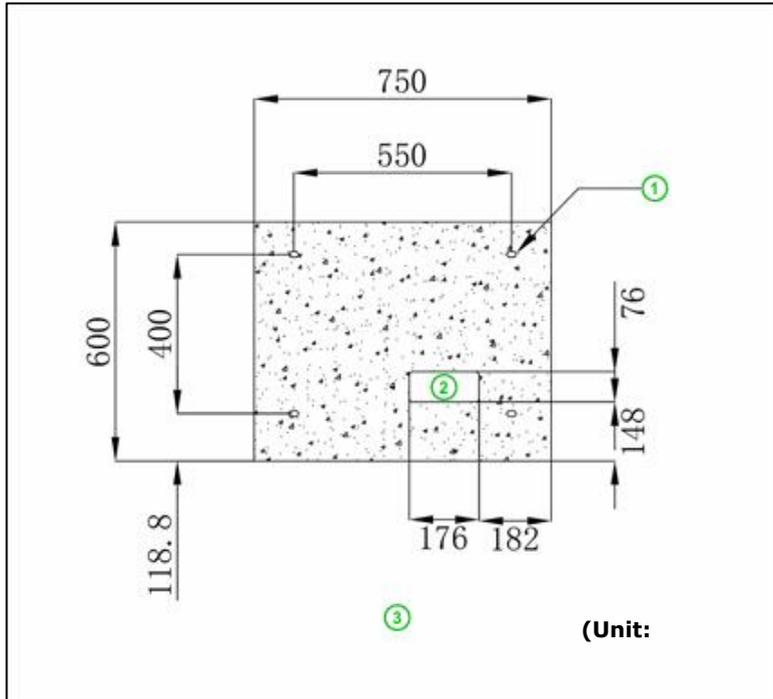
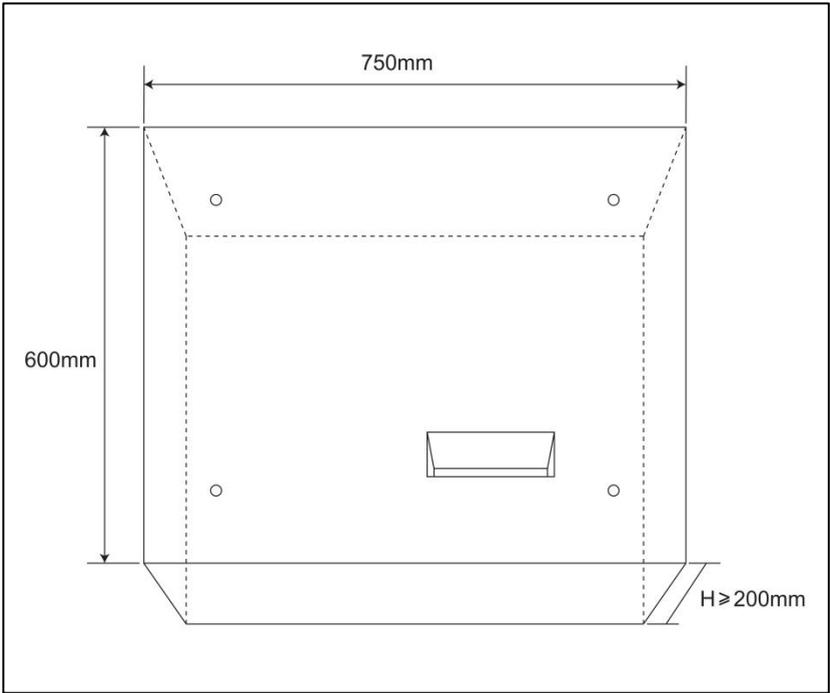
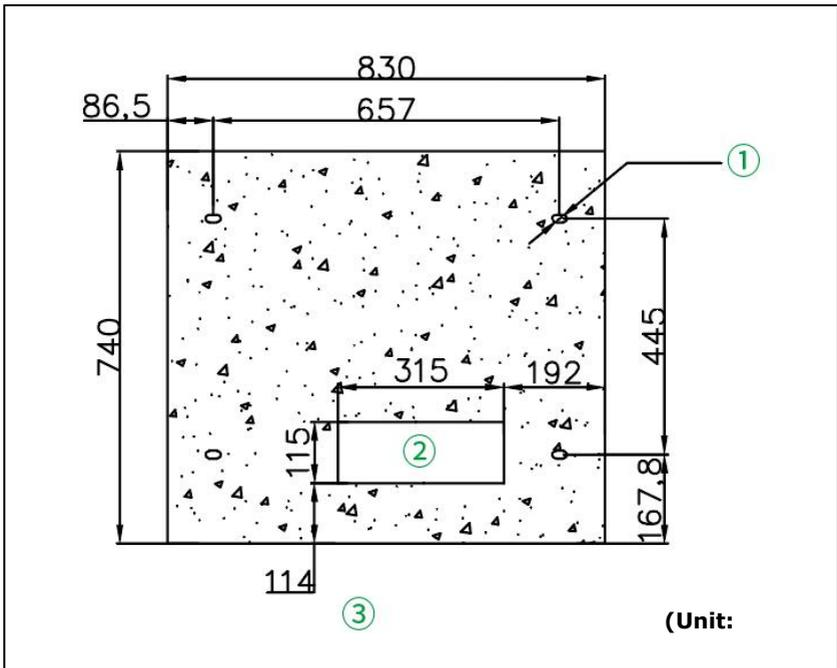
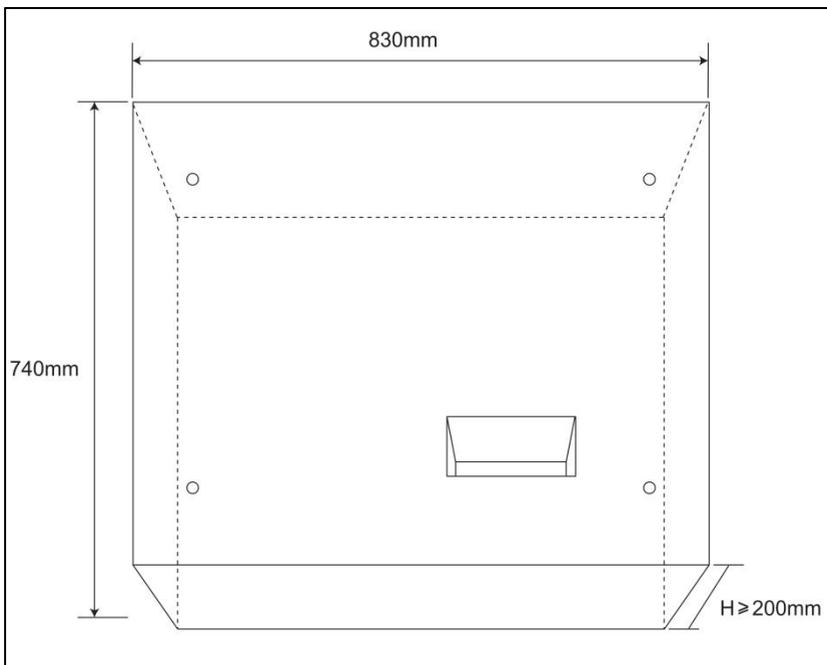

Figure 2.5.1 Hole positions and dimensions of 120~180 kW ground foundation
Figure 2.5.2 120~180 kW concrete cement base
Figure 2.5.4 Hole positions and dimensions of 240~480 kW ground foundation
Figure 2.5.5 240~480 kW concrete cement base
① Refer to Figure. 2.5.1 / Figure.2.5.4 for hole positions and dimensions; refer to Figure 2.5.2 / Figure 2.5.5 for concrete base dimensions. Cable holes of foundation correspond to the cable holes at the bottom of charger.